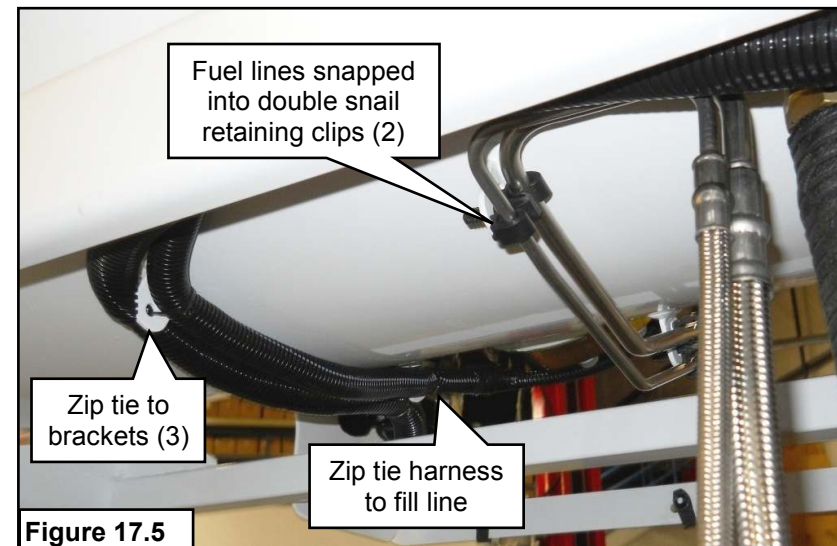

Figure 17.5
17. Attach the harness and fill line to the brackets under the tank and secure with zip ties. Zip tie the harness and fill line together and to the brackets in several places. **Figure 17.5.**